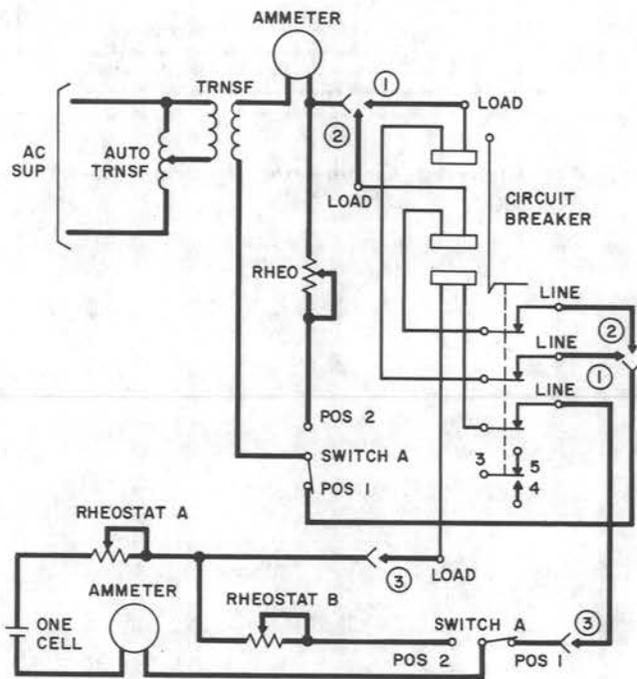

Fig. 30—Checking Circuit—AC and DC Breakers—
- current to 130 percent rated current instead of 120 percent. Refer to Fig. 30 and 39. Check each pole separately as shown by options 1, 2, and 3.